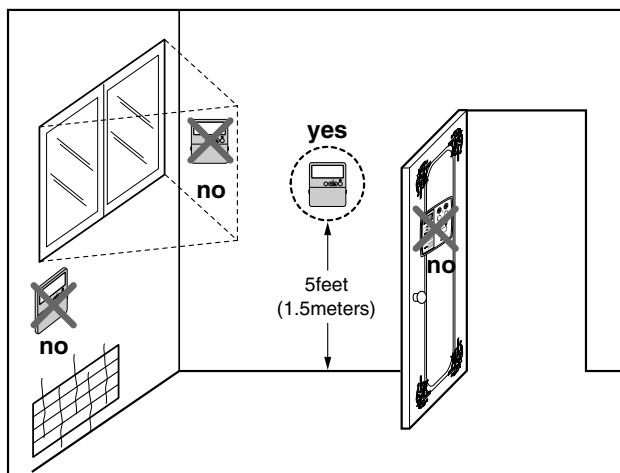

Fig.1 Typical locations for remote controller
- This remote controller is equipped with a seven segment LED display. For proper display of the remote controller LED's, the remote controller should be installed properly as shown in Fig.1.